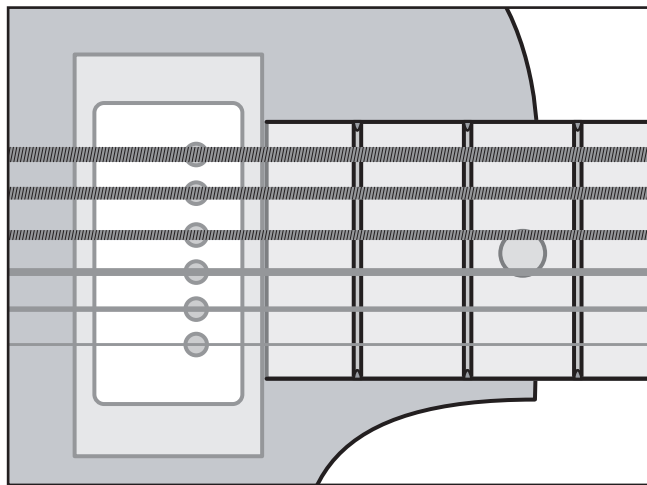

Figure 41. Pickup placement.
1. Align the pickups so the outside pickup screws are directly under the 1st and 6th strings, as shown in **Figure 41**, and tape the pickups in place.